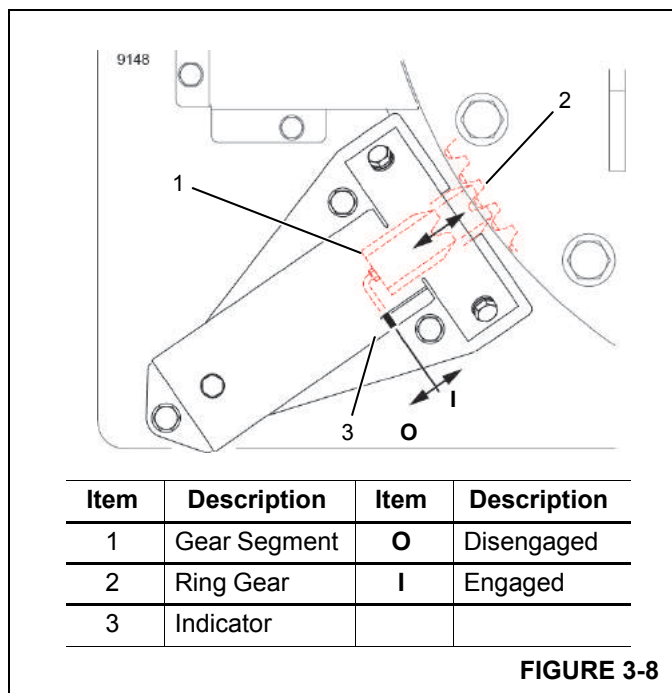

FIGURE 3-8
- **STANDARD:** hydraulic swing lock that hydraulically locks the mast in position. When this swing lock is engaged, the swing lock indicator light (12) comes on.
- **MECHANICAL:** gear segment (1, Figure 3-8) that engages the ring gear (2). The swing lock has an indicator (3) that is visible through the right cab window.